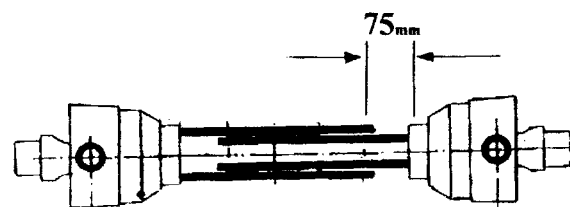

Fig. 10
- (b) Ensure that there is approximately 75mm (3 inches) of clearance of the tubes and guards (fig. 10). If not, cut both sections to length with a hacksaw and use a round file to debur.